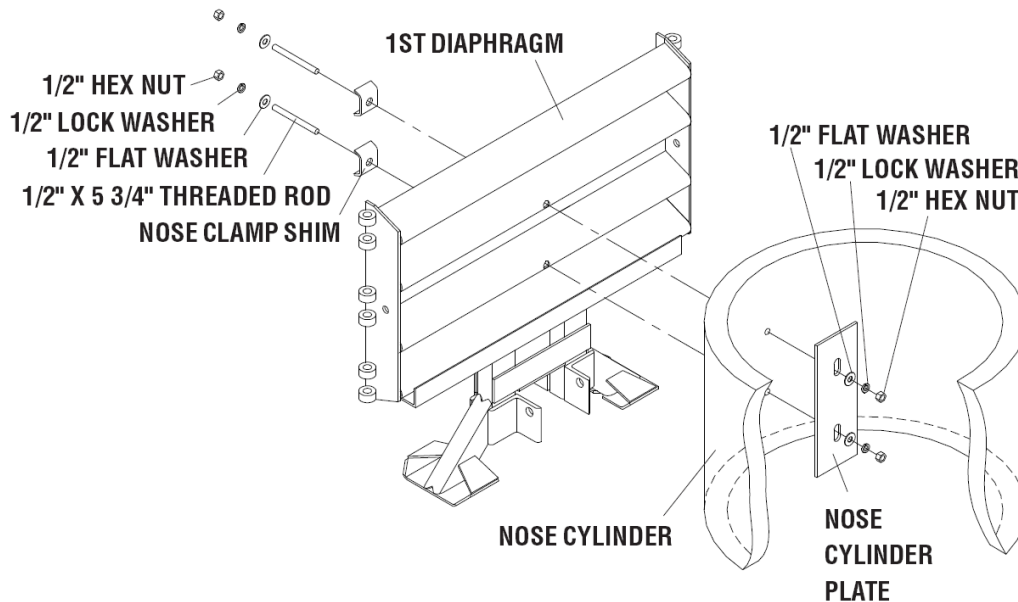

Figure 64
Attach the Nose Cylinder using two (2) 1/2" x 5 3/4" long threaded rods through the Nose Cylinder Plate, Nose Cylinder, and Diaphragm (Figure 64). Secure each 1/2" threaded rod with flat washers, nuts, and a Nose Clamp Shim. Torque threaded rods to a 20 ft-lbf [27 N m] minimum and 60 ft-lbf [80 N m] maximum.